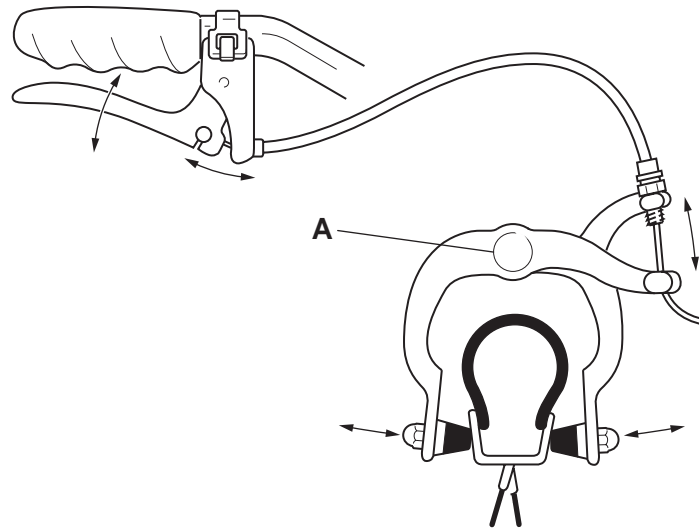

Fig. 5
- 5 The mechanism used in the bicycle brake shown in Fig. 5 is based on a bell crank. The lever pulls the cable which causes the two brake arms to move towards each other simultaneously. This action brings the two pads into contact with the braking surface of the wheel rim. Springs return the arms to move back when the lever is released.